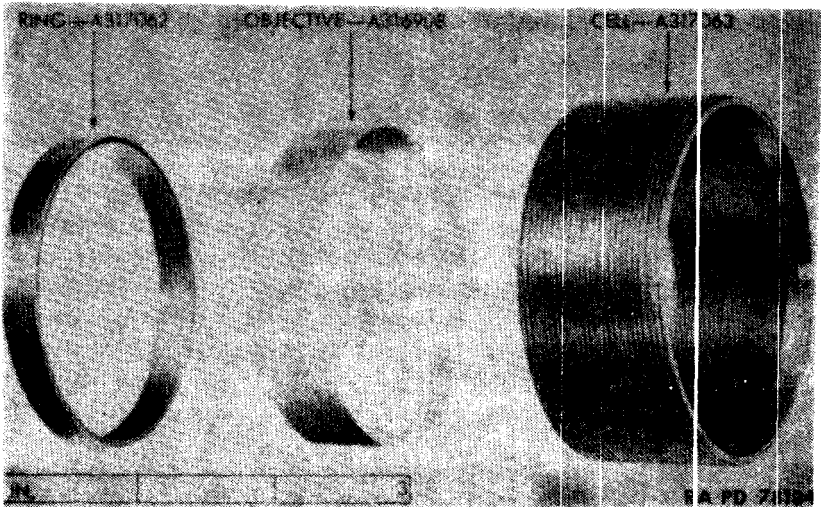

**Figure 17-Observation Telescope M49-Prism Housing Assembly C130788 Partially Disassembled**
(2) Remove the washer A317092 (fig. 17) that serves as a diaphragm, by first removing the three screws A317091 that hold it.
(3) Remove screws A317093 and BCFX4AF that hold the prism shelf assembly C130797 (fig. 17) and remove the shelf assembly.